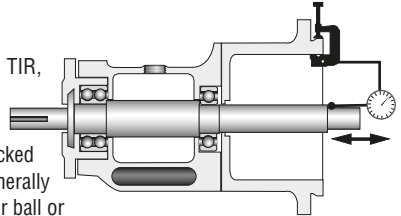

Figure 2
Shaft endplay should not exceed 0.25 mm (0.010 inch) TIR, regardless of thrust bearing type. See Figure 2.
- 3.2 Secure the seal assembly in place at its correct seal setting position (SS) by tightening the rotating assembly set screws. See Figure 2. Refer to the seal assembly drawing for correct seal setting dimension.